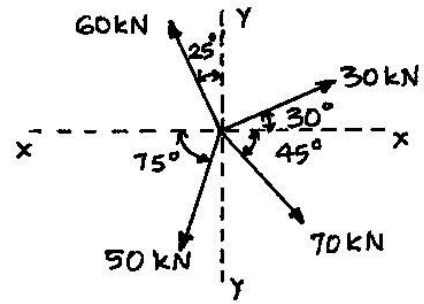

FIG 2. Q 1 (c)
- (c) Find magnitude and direction of resultant of force system shown in **fig. 2.** **05**